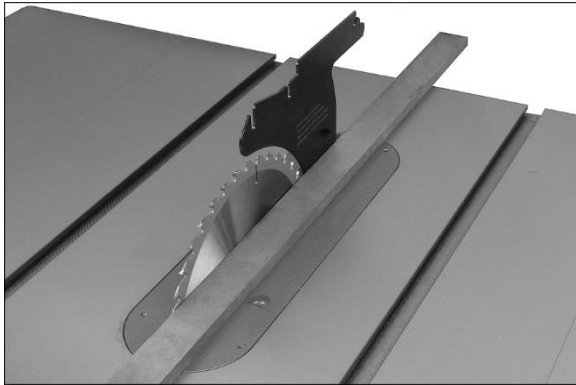

Figure 8-7
2. Place a straightedge on table so it rests against blade and riving knife. See Figure 8-7. Rotate blade so that top of blade tooth touches straightedge.